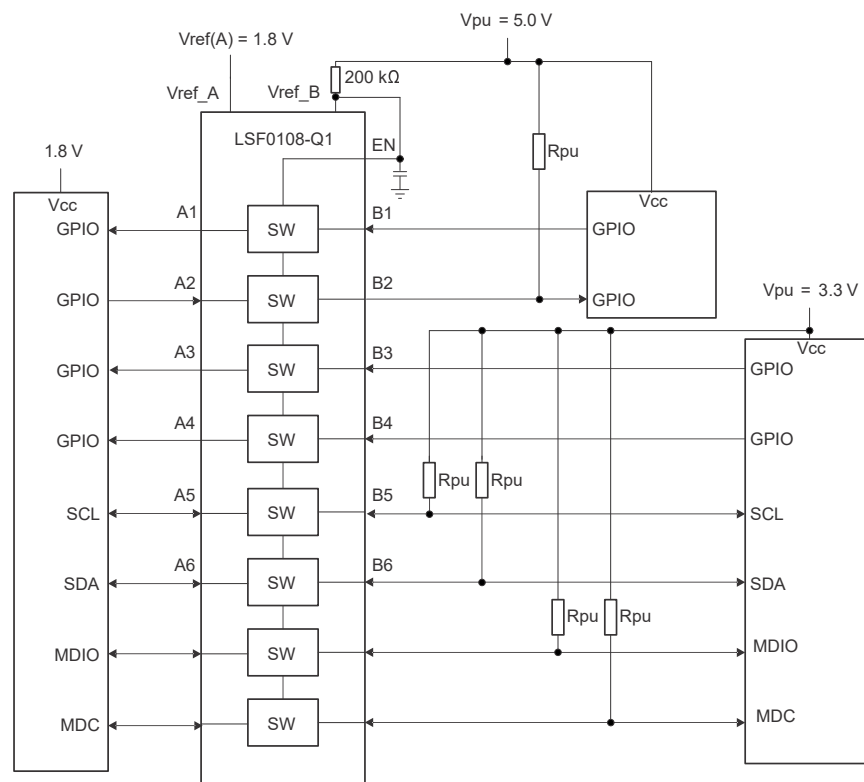

Figure 9-1. Bidirectional Translation to Multiple Voltage Levels
- V_{CCB}/V_{CCA} are not the same as V_{ref_B} or V_{ref_A} : V_{CCB} refers to the B-side supply voltage supplied to the LSF device, while V_{ref_B} refers to the voltage at the V_{ref_B} pin (pin 7 of Figure 9-1) on the other side of the 200 k Ω resistor
As shown in Figure 9-1, $V_{\text{ref_B}}$ is connected through a 200-k Ω resistor to the V_{PU} power supply at 5 V and $V_{\text{ref_A}}$ is connected to a 1.8 V power supply. The A1 and A2 channels have a maximum output voltage equal to $V_{\text{ref_A}}$, and the B1 and B2 channels have a maximum output voltage equal to V_{PU} .
Figure 9-1 shows how the reference supply voltage V_{ref_A} is connected to the processor core power supply at 1.8 V and V_{ref_B} is connected through a 200 kΩ resistor to a 5 V power supply. The output of A3 and B4 has a maximum output voltage equal to V_{ref_A} , and the bidirectional interface (Ch5/6, MDIO, MDC) has a maximum output voltage equal to V_{PU} .